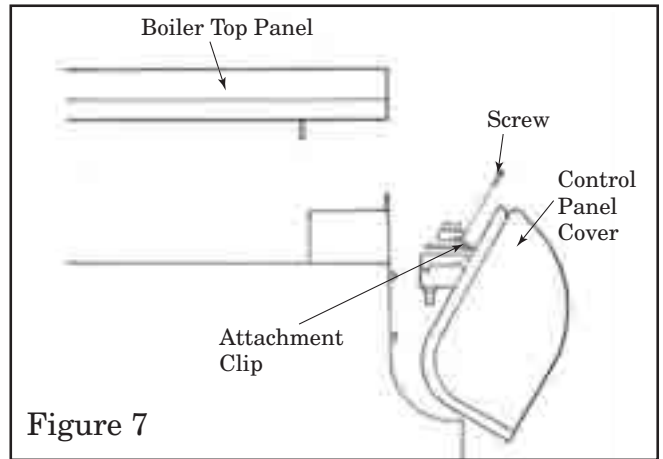

Figure 7
- b. Remove the top access panel. See Fig. 7.
clips to the left and right jacket panels. See Figure 7. The metal control enclosure is removed from the left and right jacket panels by removing two phillips screws on each side.